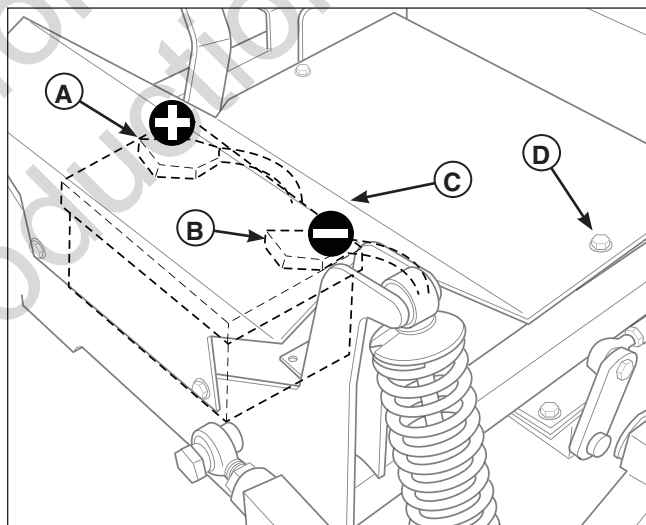

Figure 28. Battery Compartment
1. Loosen and remove the floor pan retaining bolt (D, Figure 28).
1. Tilt the left side of the floor pan (C, Figure 28) up so that the locking pins clear the holes in the frame. Slide the floor pan to the left until it stops. Raise the floor pan straight up and remove from the machine.
2. Disconnect the cables from the battery, negative (black) cable first (B).
4. Reinstall the battery and reattach the battery cables, positive (red) cable first (A).